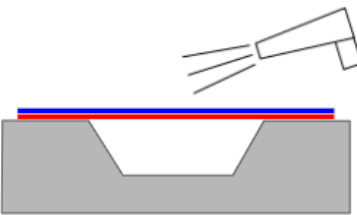

Fig.2
- 2) Heat the material between 35°C and 50°C to soften the film, thus making the inlay process easier. *Fig.2*